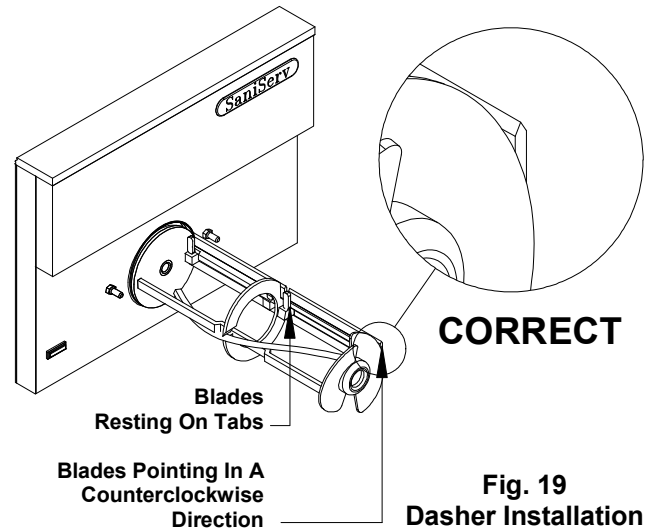
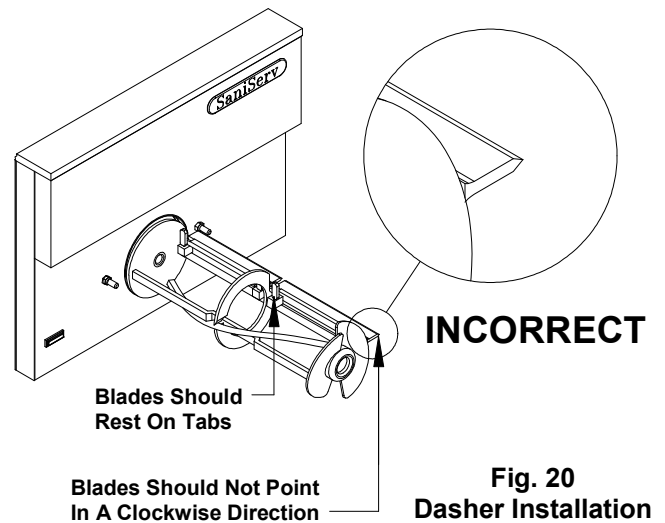

Fig. 19
Fig. 20
- e. Insert the dasher assembly into the freezing cylinder as far as possible (Fig. 19) being careful not to damage the scraper blades. Damage will occur to the scraper blades and the dispenser will not operate properly if the scraper blades are installed facing in a clockwise direction (Fig. 20).
Note: The stator rod has been deleted from Fig. 19 and Fig. 20 for clarity only. The stator rod must be installed for proper machine operation.